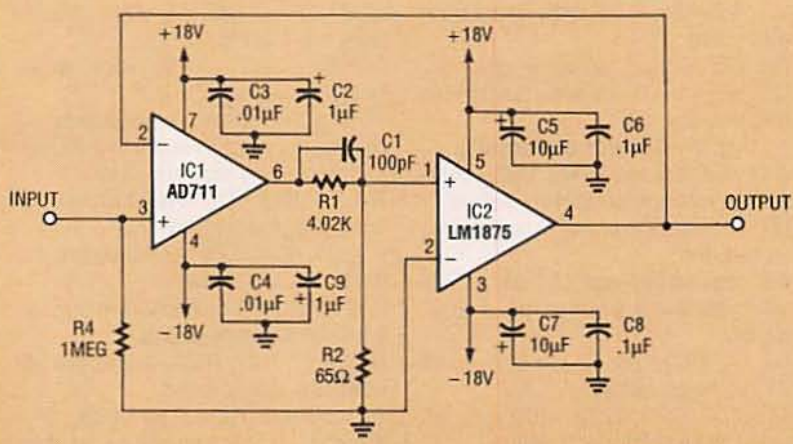

FIG. 3—A 10-WATT NON-INVERTING COMPOSITE AMPLIFIER
**FIG. 3—MAKE THE SENSOR ASSEMBLIES** with heat-shrink tubing and small diameter coaxial cable such as RG-174/U. The space between the coaxial cable and the outer heat-shrink tubing is filled with a little silicone rubber.
Make the sensor assemblies with heat-shrink tubing and small diameter coaxial cable such as RG-174/U (see Fig. 3). Both the phototransistor and microphone are polarized components, so make sure their positive sides (the collector in the case of Q2) connects to the center conductor of the coaxial cable, which, in turn, connects to the tip of the phone jack. Note the resistor in series with the phototransistor; we mounted it at the detector end of the coaxial cable and made the heat-shrink tubing long enough to cover both it and most of the case of Q2. The space between the coaxial cable and the outer heat-shrink tubing was filled with a little silicone rubber.
Figure 3 shows the basic composite amplifier circuit with IC2, an LM1875, in the feed-
duces more distortion when it is connected as a follower (Fig. 3) because of its large common-mode signal.
#### Figs. 3 and 4—10-watt composite amplifiers